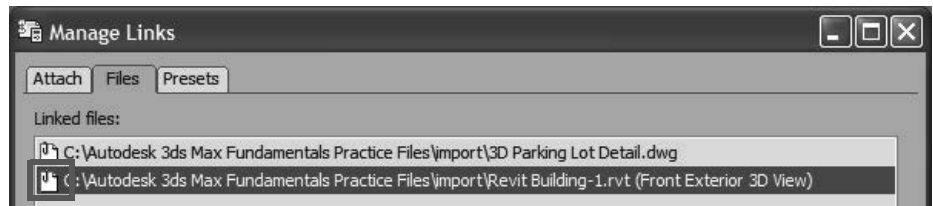

Figure 3–45
8. In the Manage Links dialog box, in the **Files** tab, the icon has changed to , as shown in Figure 3–45. This indicates that there are no differences between the original file and the linked file.